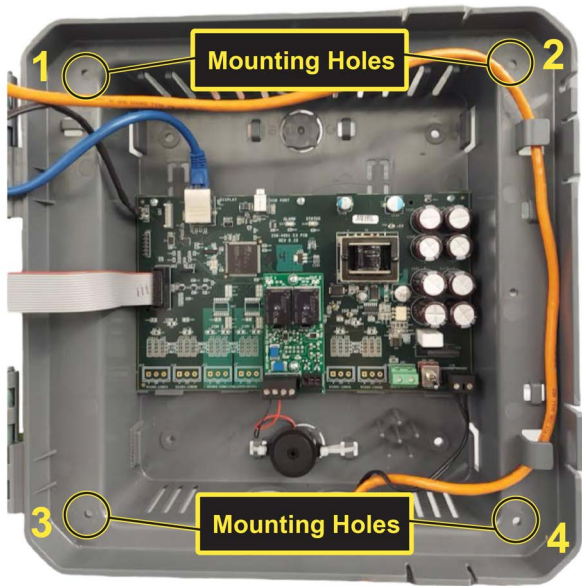

Figure 4 - Mounting Plate Attached to the E3-FSD - front open
3. Once this hole is cut, mount the plate to the back of the E3-FSD housing and attached using the four screws and hardware included in the kit (Figure 4 and Figure 5 on page 4).